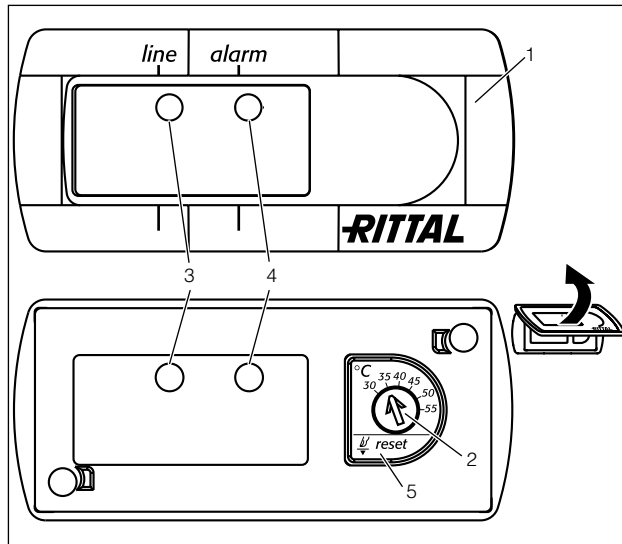

Fig. 36: Basic controller
- Set the required temperature on the temperature setting device (Fig. 36, page 23).
- Press the reset button (Fig. 36, no. 5) for at least 3 sec.